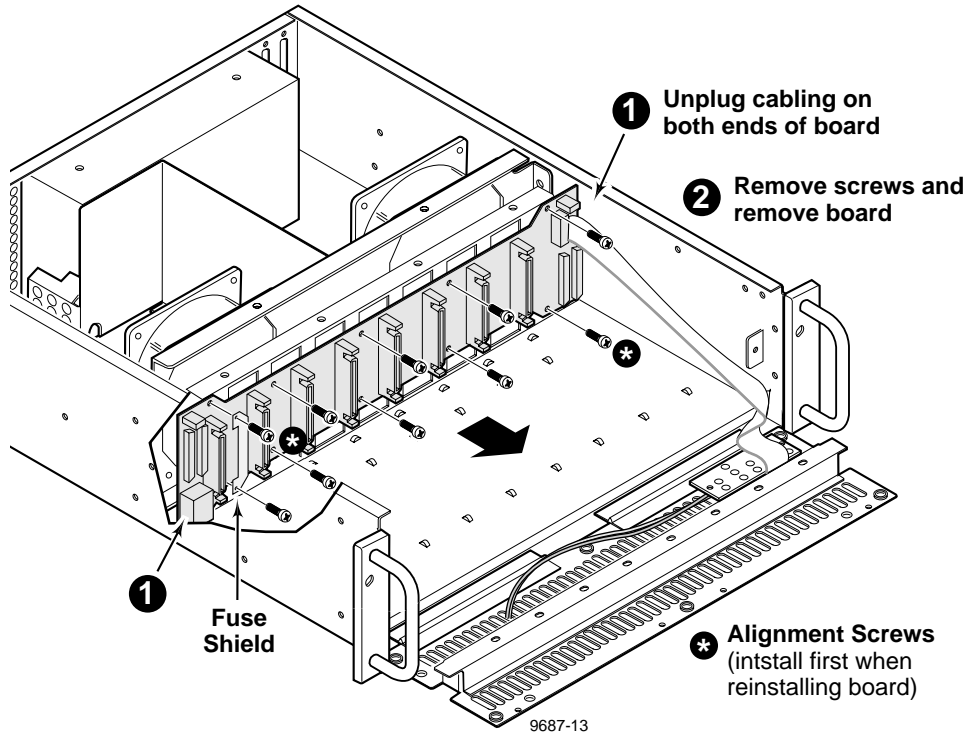

Figure 3-15. PDX208 SCSI Distribution Board Removal
Figure 3-15 shows removal of the SCSI Distribution board.
8. Disconnect all cables (listed below) from the SCSI Distribution board (Figure 3-15).
1. Align the SCSI Distribution board in the chassis by attaching the screw at the lower right and the screw at the upper left (Figure 3-15).
3. Connect all previously disconnected cables to the SCSI Distribution board (Figure 3-15).